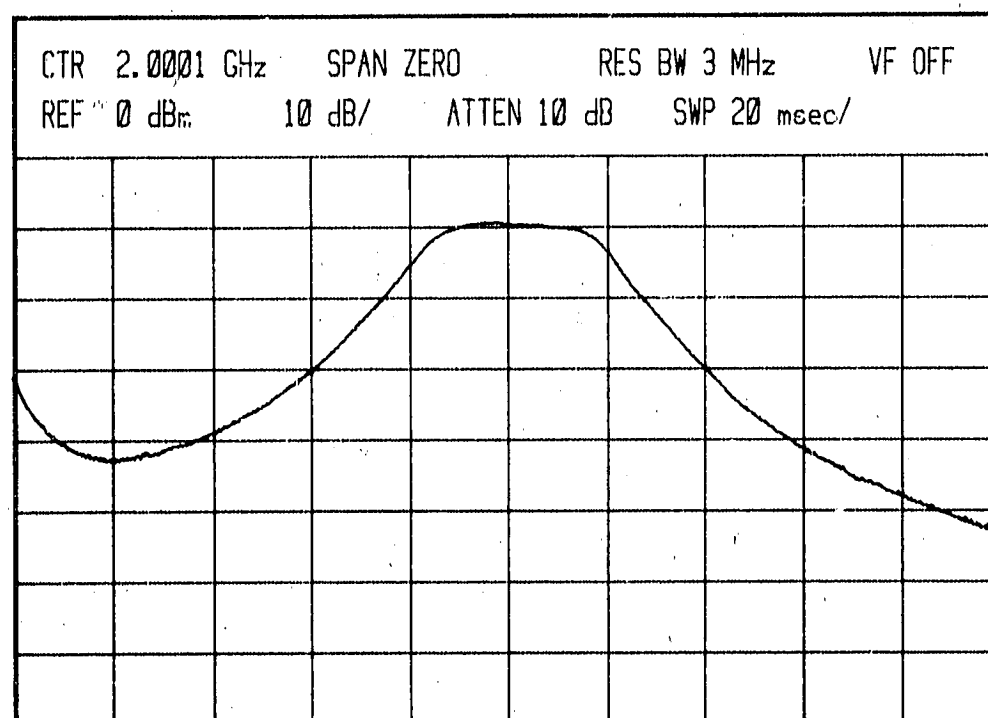

Figure 5-53. YTF Passband Display
- d. Perform corresponding **YTF** tracking adjustment to center passband (10-dB points) on spectrum analyzer CRT display (Figure 5-53). Ensure that at least 25 percent of passband is on each side of center vertical graticule line.